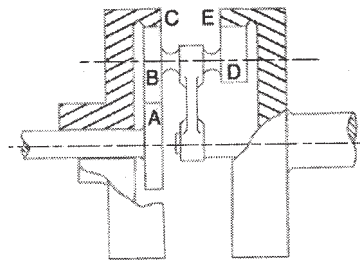

Figure 1
b) In the epicyclic gear train, as shown in Fig. 1, the driving gear A rotating in clockwise direction has 14 teeth and the fixed annular gear C has 100 teeth. The ratio of teeth in gears E and D is 98: 41. If 1.85 kW is supplied to the gear A rotating at 1200 r.p.m., find: [10]